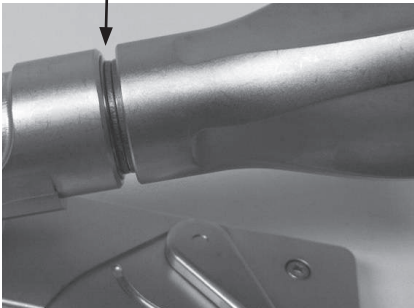

Figure 6 – Example of closed compression washers
3. Position accessory device as required. Turn the main handle clockwise until the gap between the compression washers closes as depicted in Figure 6. The closing of the gap between the washers indicates that the recommended cable tension is reached as shown in the following picture.